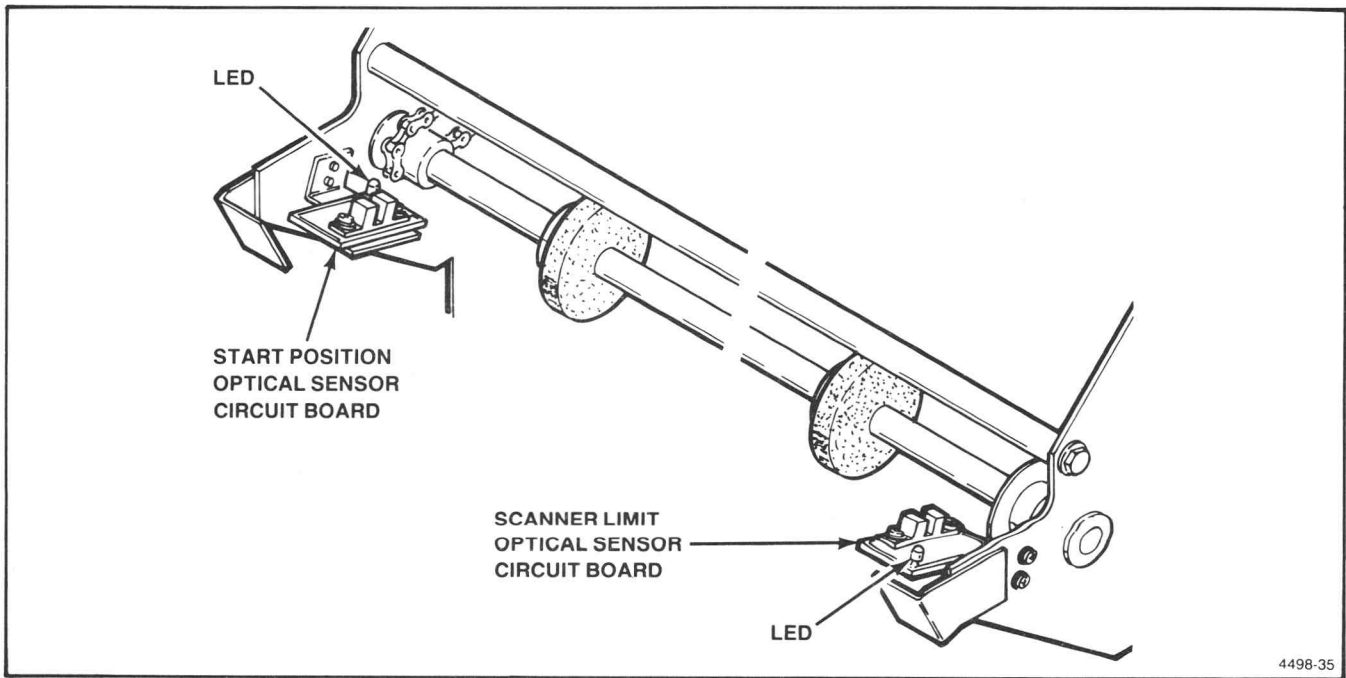

Figure 5-17. Carriage Drive Motor Connector and Sensor Locations.
3. Move the ink jet head carriage to the left and against the wash station firmly. Observe that the LED on the Start Position Optical Sensor circuit board turns on (see Figure 5-17).
4. Move the ink jet head carriage to the right end of its travel and observe that the LED on the Scanner Limit Optical Sensor circuit board turns on (see Figure 5-17).